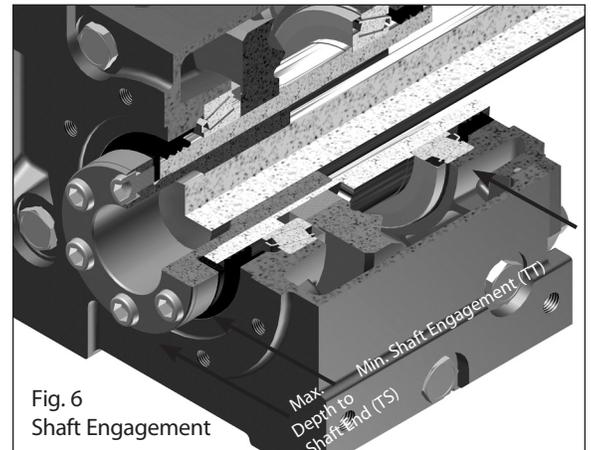
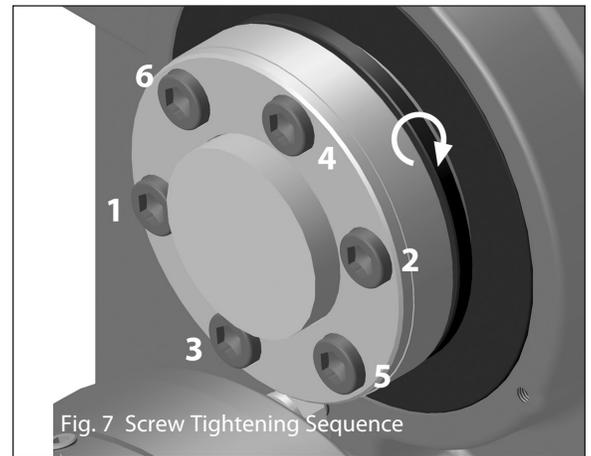

Fig. 6 Shaft Engagement
Fig. 7 Screw Tightening Sequence
**Step 8** – Position unit with the bushing flange located on the outboard side of the unit. Align the bushing with the driven shaft. Slide the unit onto the driven shaft as close to the driven shaft support bearing as possible. Ideally, the driven shaft should extend beyond the bushing flange face (see Fig. 7). Refer to Fig. 6 and Table 2 below for minimum shaft to bushing engagement. For maximum depth to the end of the shaft, refer to Fig. 6 and Table 3 below.
**Step 9** – With a torque wrench, tighten the cap screws in 20% increments to engage the bushing system. Use the appropriate tightening pattern (“star-pattern” see Fig. 7) to assure complete bushing engagement. Tighten each cap screw to the torque values shown in Table 4.